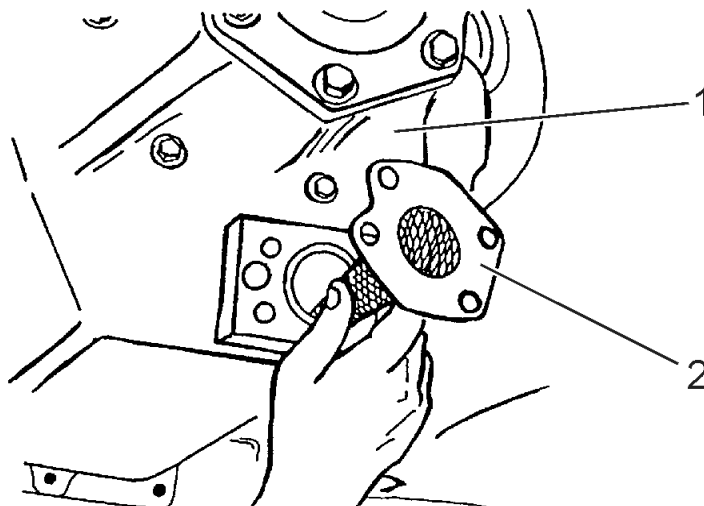

Fig. 7C.63. Scavenge Pump Strainer
16. Reconnect gear shifting valve hoses (1 and 2 pressure ports), switching valve hose (Pc pressure port) and brake solenoid valve hose (N pressure port) to range selector valve (2, Fig. 7C.59).